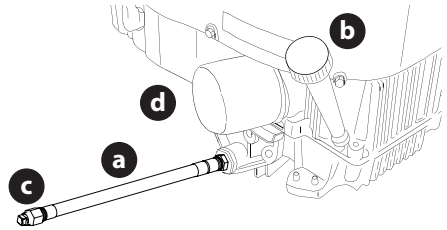

Fig. 35
1. Locate the oil drain hose (a) on the side of the engine (Fig. 35).
2. Place an appropriate oil collection container with at least a 2.5 quart (2.37 liter) capacity below the opening of the oil drain hose, to collect the used oil. Remove the oil fill cap/dipstick (b) from the oil fill tube (Fig. 35).
3. While holding the free end of the oil drain hose over the oil collection container, unscrew the square head hose plug (c) from the end of the oil drain hose (Fig. 35). Drain the engine oil into the collection container.
5. Remove the oil filter (d) and drain into the collection container (Fig. 35).
6. Replace the oil filter (d) and refill the engine with new oil as instructed in the Engine Operator's Manual (Fig. 35).